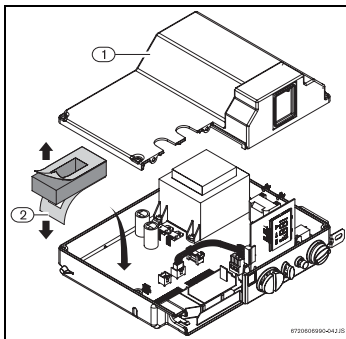

Fig. 3
- ▶ Open control unit top cover (Fig. 3, pos. 1).
- ▶ Remove the protective paper (Fig. 3, pos. 2) from one face of the support
- ▶ Replace the control unit cover with the 4 Philips head screws (Fig. 3, pos. 1).